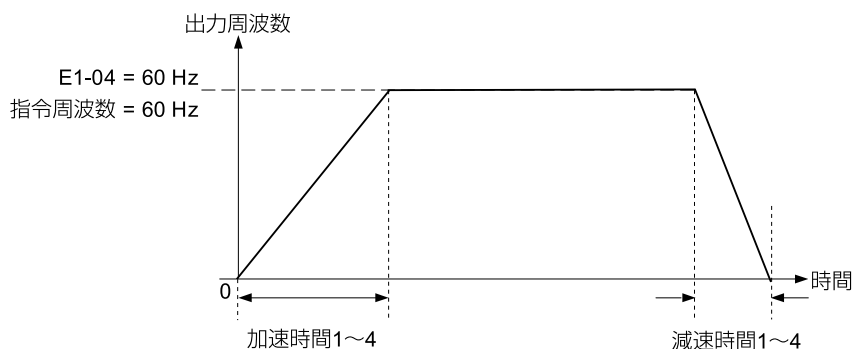
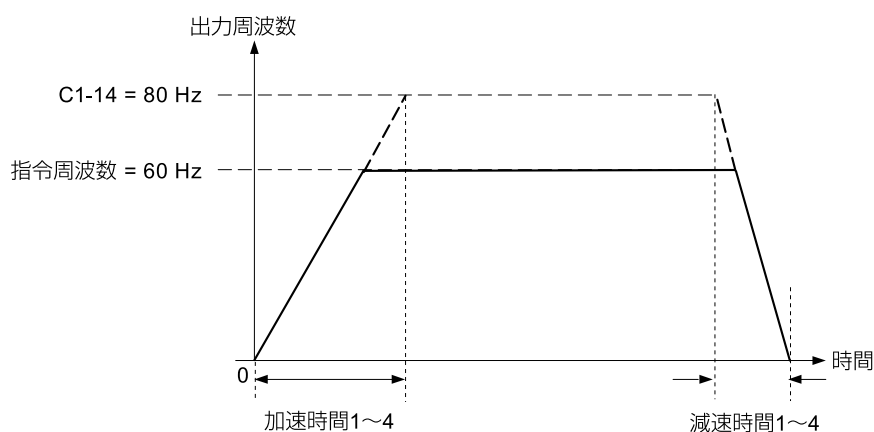

Figure 11.48 Example 1 of Acceleration/Deceleration Rate (When C1-14 = 0 Hz, E1-04 = 60 Hz, and the Frequency Reference is 60 Hz)
Figure 11.50 Example 3 of Acceleration/Deceleration Rate (When C1-14 = 80 Hz, E1-04 = 60 Hz, and the Frequency Reference is 60 Hz)
- Figure 11.48 Figure 11.50 shows the values displayed for the accel/decel times when C2-01 to C2-04 [S-Curve Times @ start/end of Accel/Decel] are set to 0.00 s.